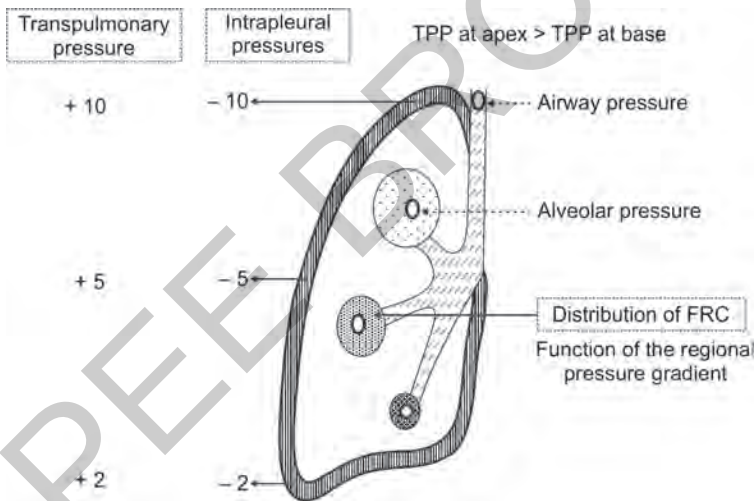

Figure 3.6: Regional difference in transpulmonary pressure gradient during end of expiration
c. *Regional difference in the transpulmonary pressure gradient at the end of expiration: Figure 3.6*